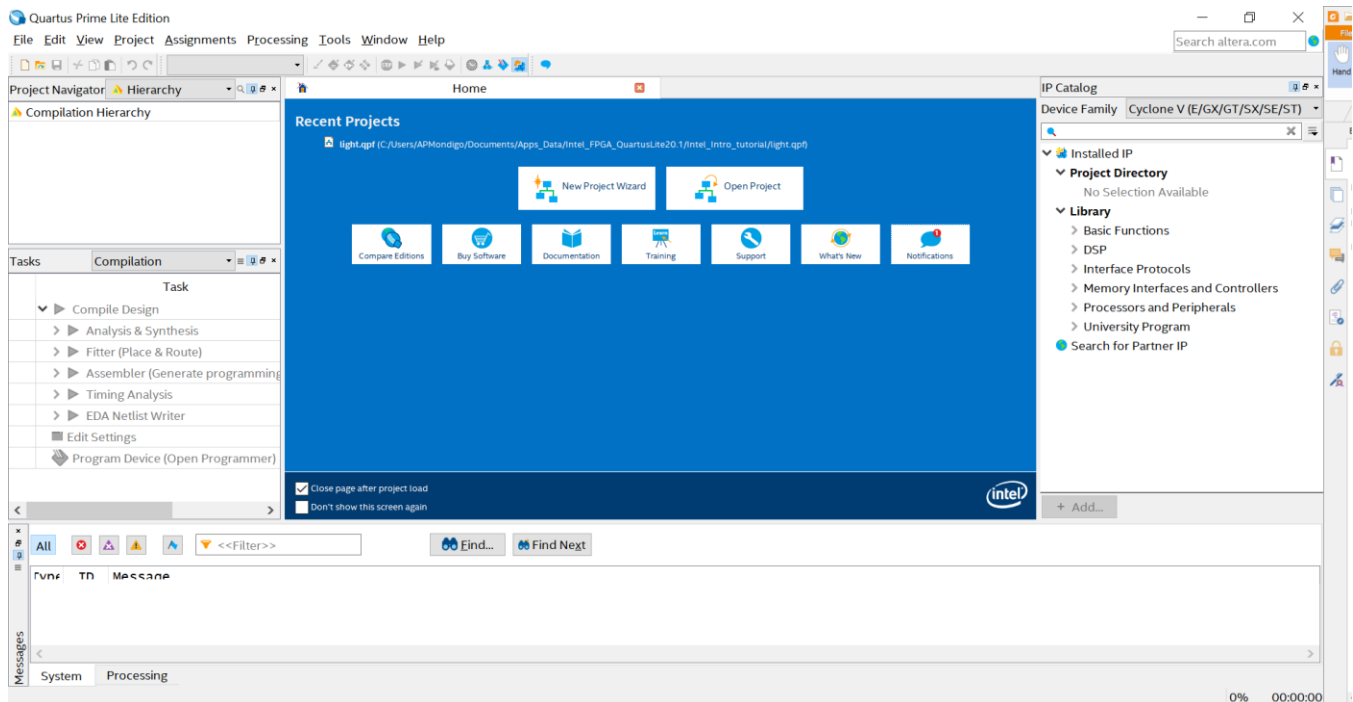

Figure 1. Main Quartus Prime Display
1. Begin by starting the Quartus Prime software. Figure 1 shows the main display of the software. Most of the commands are accessible by the menu buttons. To start a new project, select **File > New Project Wizard** (or click the **New Project Wizard** in the Home Tab shown in Figure 1). Then, click **Next** to reach the display for setting a **working directory**, as shown in Figure 2. You may choose where you want to place your project files (any local directory in your computer). Enter the project name **LightControl** and click **Next**. If the directory does not exist, Quartus Prime software will ask for your permission to create the desired directory and click **Yes**.